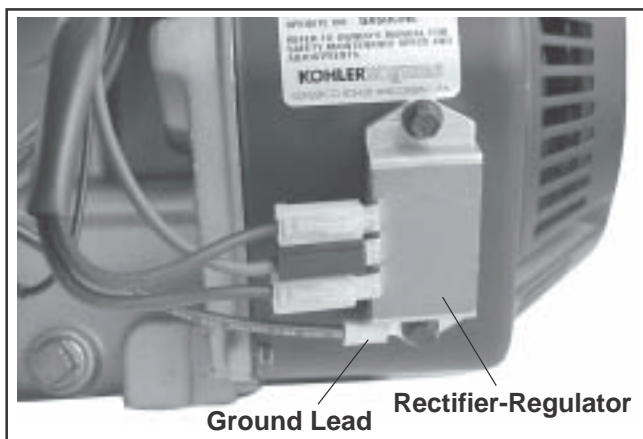

Figure 11-52. Installing Rectifier-Regulator.
1. Install the rectifier-regulator and secure with the hex flange screws. Attach the separate ground lead if used (plastic blower housing models) to one of the screws. See Figure 11-52.
2. Attach the connector assembly, or individual connectors (B+ lead to center terminal/stator leads to outer terminals) to the rectifier-regulator. See Figure 11-52.